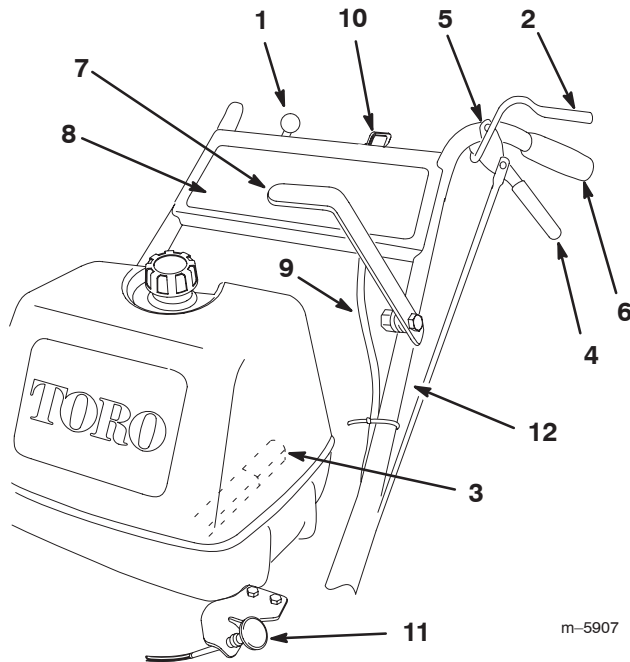

Figure 16
Become familiar with all the controls (Fig. 16) before you start the engine and operate the machine.
1. Move the throttle lever to the **Slow** position (Fig. 16).
1. Squeeze the operator presence control (OPC) levers against the handles (Fig. 16).
2. Push the blade control (PTO) lever firmly forward until it latches over the center (Fig. 16).
Pull the blade control (PTO) lever **fully** rearward (Fig. 16).